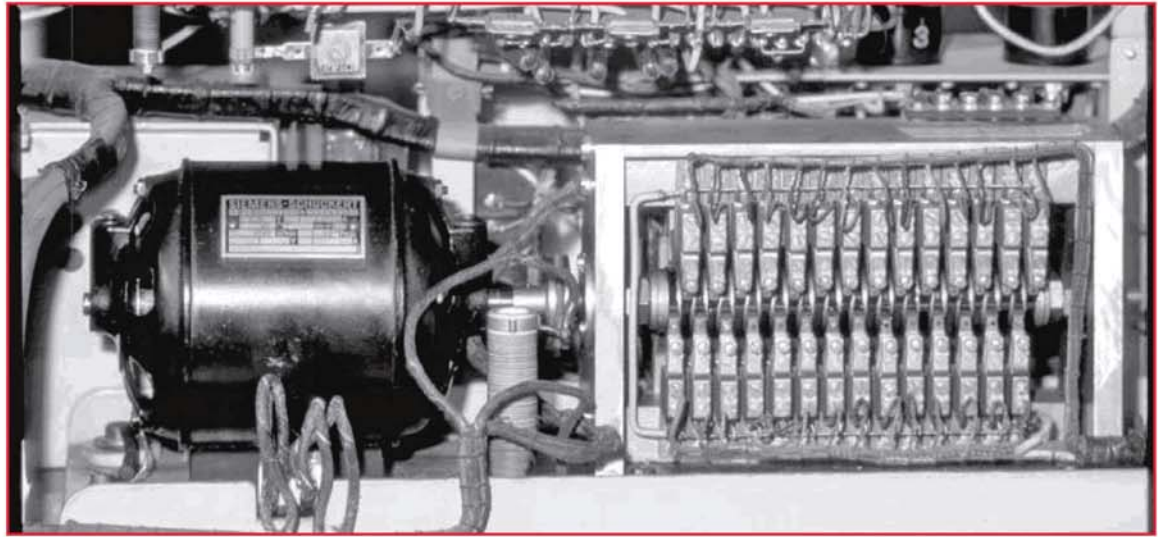

Figure 3. Drive motor and camshaft switching gear comprising 54 spring sets. (original photo)
First cautious attempts: the drive motor for the two sets of 27 cam switches (**Figure 3**) was stuck; no high tension (HT) for the 7-inch (18 cm) cathode ray tube (“Braun’sche Röhre”) with asymmetrical deflection. Unfortunately, this tube had become unusable due to corrosion of the wires at the pinched base. Only the audio frequency (AF) part of the instrument seemed to be functional to some extent.